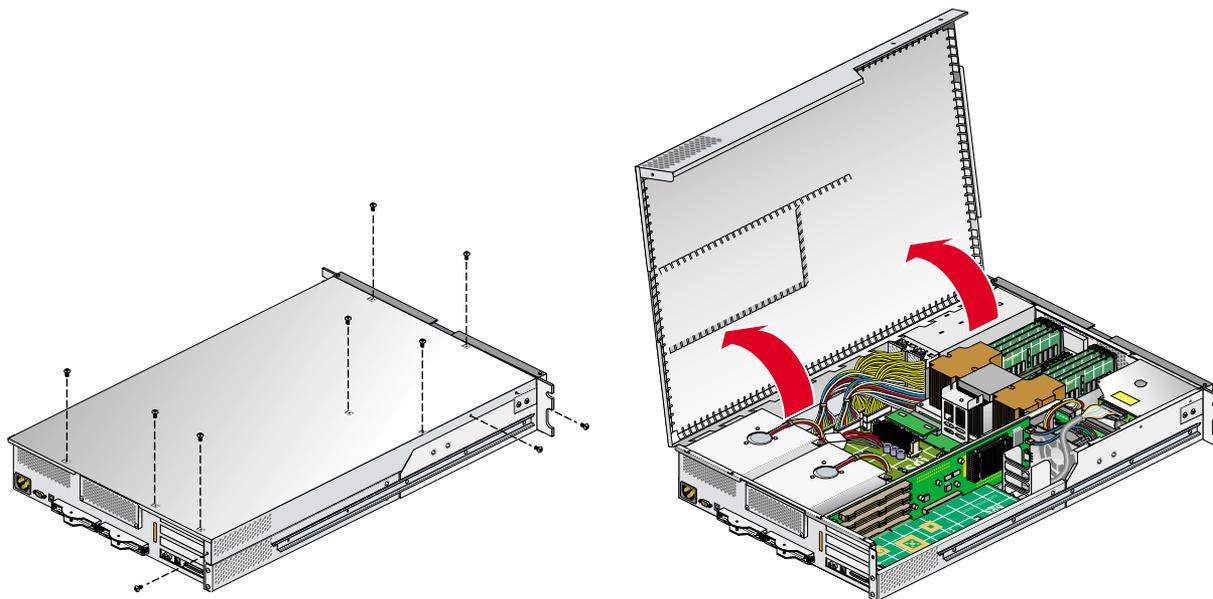

Figure 7-10 Opening the Cover to Remove the Card
- To access the card, remove the ten Phillips screws, as shown in Figure 7-10, and lift the hinged cover.